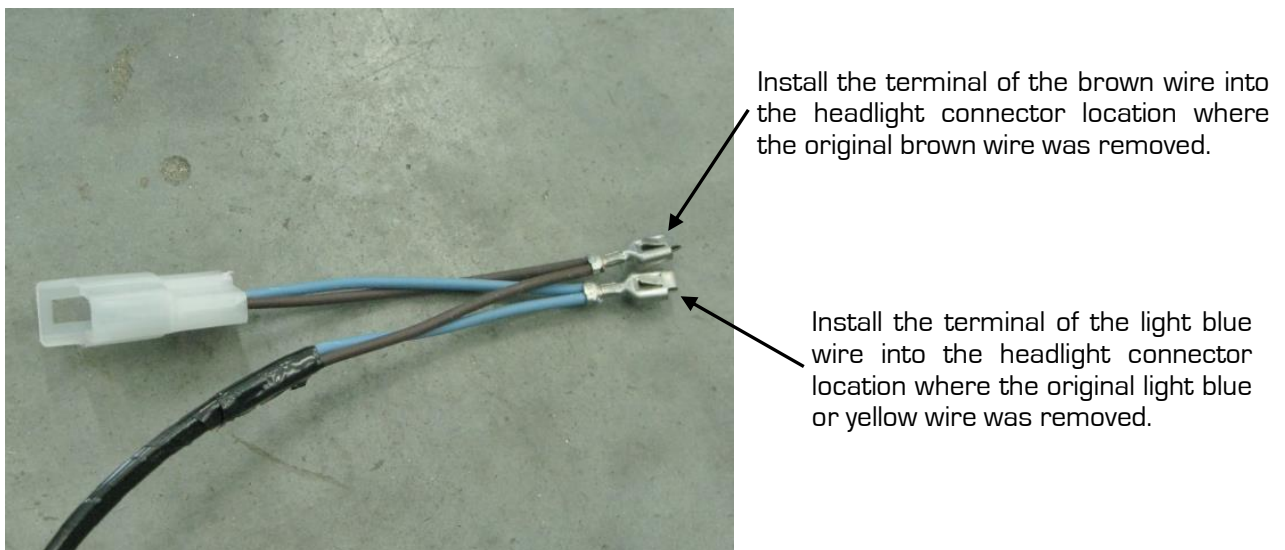

Figure 35 – New Headlight Harness
32. Insert the terminal of the light blue wire on the new headlight harness into the headlight connector location where the original light blue or yellow wire was removed. Insert the terminal of the brown wire on the new headlight harness into the headlight connector location where the original brown park lamp wire was removed (Figure 35).